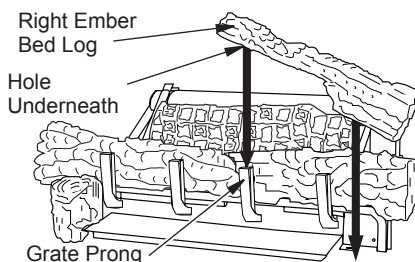

Figure 41 - Installing Right Ember Bed Log
5. The right ember bed log 24" & 30" (D-047) has a hole in the log that sets on the grate finger and the other end rest on the fireplace floor, place log as shown in Figure 41. The right ember bed logs for 18" (D-072) has a groove on the side that sets on the ember bed pan and the back of the log needs to rest against the front of the base. Make sure the flame from the ember pan does not touch the ember bed log. The back side of this log needs to rest against the front of the base assembly, make sure the flame from the ember pan does not touch the ember bed log.